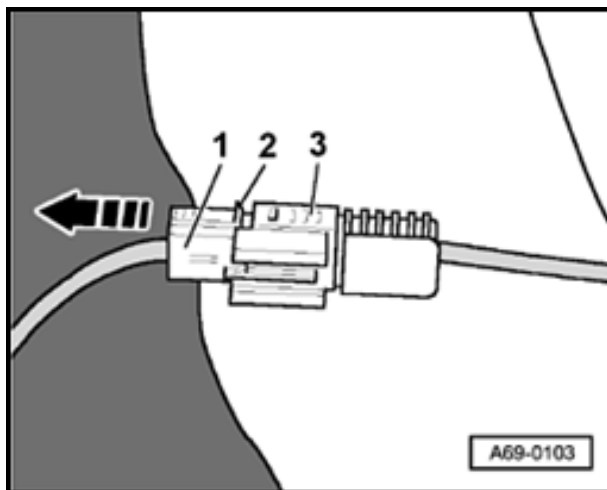

Fig. 1 Disconnecting side airbag connector
- On vehicles with side airbags: disconnect connector ⇒ Fig. 1 .